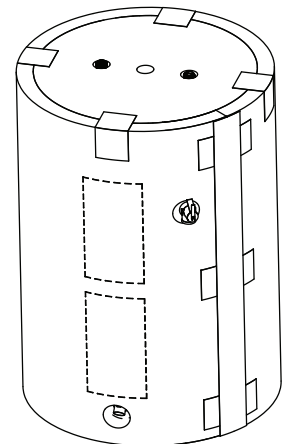

Figure 5
5. Secure top insulation to cover by using 4 tape strips 6" long as shown in fig. 5.